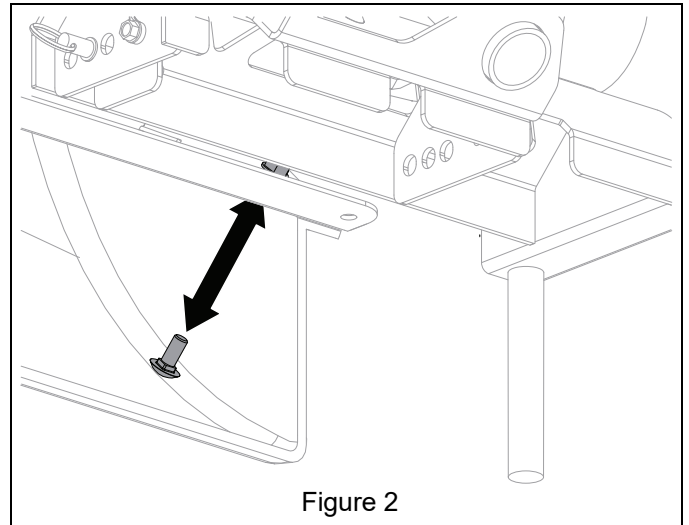

Figure 2
3. Remove hardware from front of blower housing outlet. Discard hardware. See Figure 2.